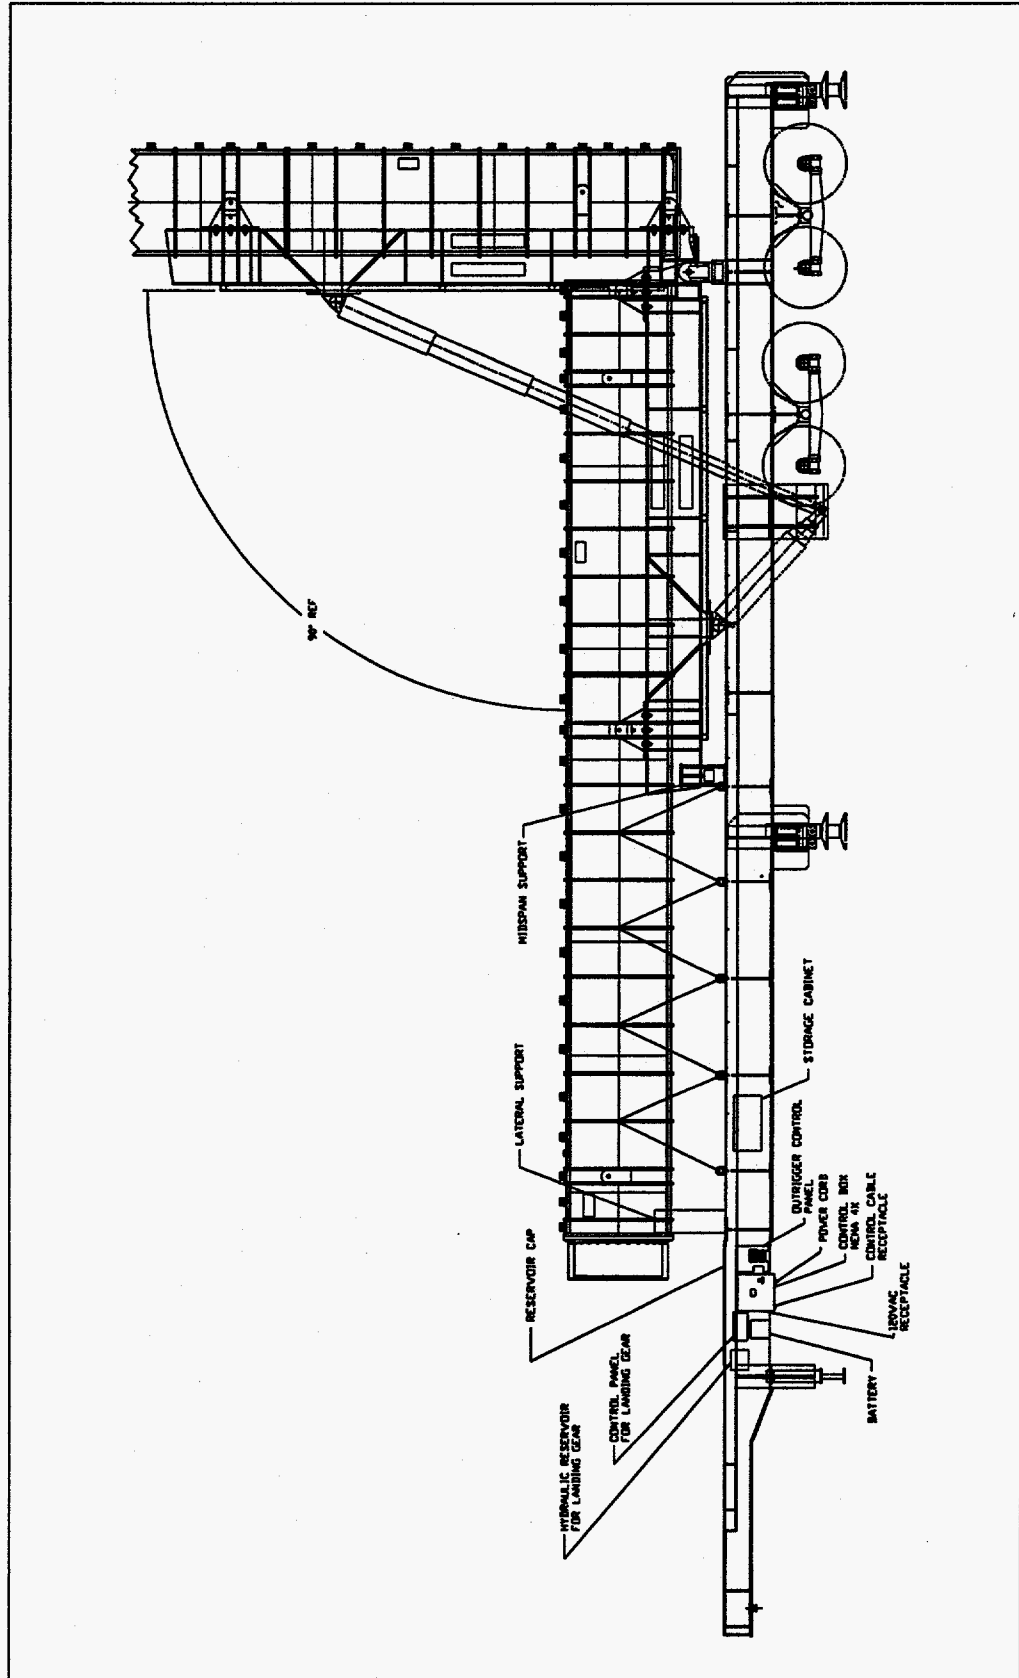

Figure 1, 100 TON TRAILER
- 2 Verify that the electrical power line is coiled and properly stored behind the NEMA 4X box. Verify that the remote pendant and cable are coiled and properly stored in the trailer mounted storage cabinet (Figure 1, page 2).
- 4 Verify that the hydraulic reservoir cap for the main hydraulic system is securely in place (Figure 1, page 2). Cover the reservoir cap with plastic and tape to further protect the system from contaminants.
- 6 Verify that all circuit breakers are in the off position and the NEMA 4X box is securely closed and bolted (Figure 1, page 2).
- 2 Verify that the container is properly and adequately tied down using the trailer mounted D-rings (Figure 1, page 2).